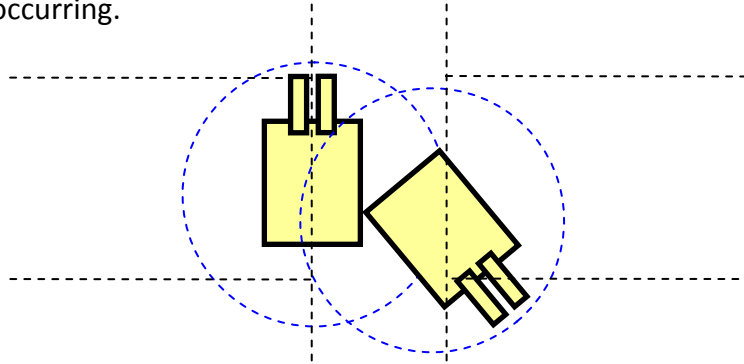

Figure 5
- In an area where multiple vehicles may travel, Figure 5 shows how vehicles may interfere or make accidental contact. When vehicles are in automatic mode, the VSM prevents these conditions from occurring.